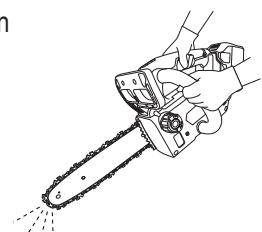

Fig. 21
6. Checking chain oil discharge (Fig. 21)